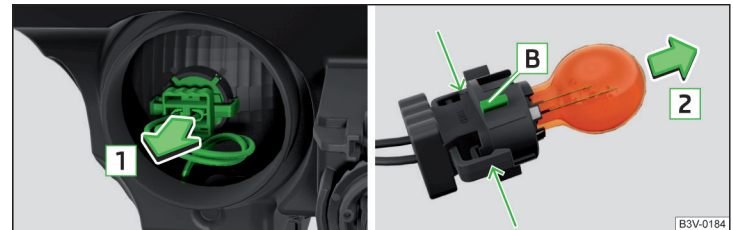

Fig. 273 Changing the bulb for the turn signal light
- » Remove the bulb holder with the bulb by jiggling it out in the direction of the arrow **1** » Fig. 273.